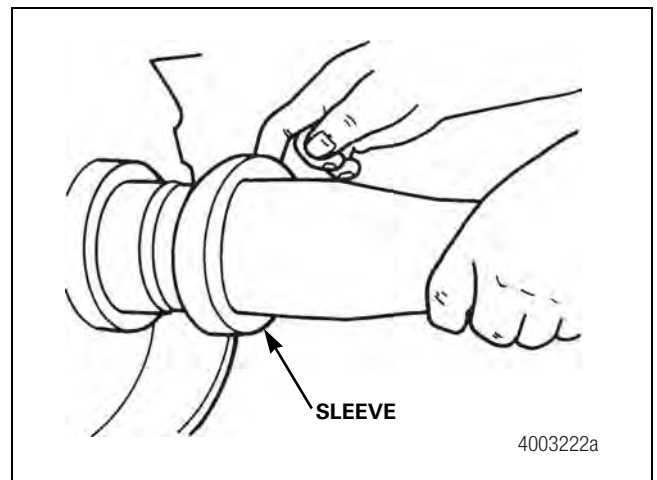
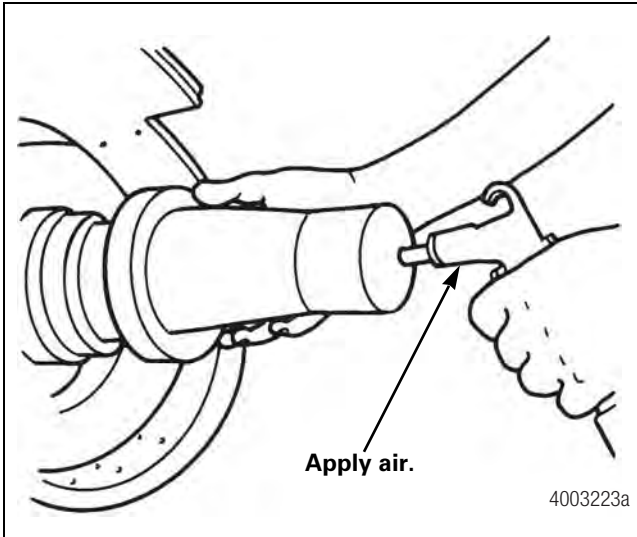

Figure 6.30
Figure 6.31
1. To remove the sleeve, pull on it and break the sleeve vacuum by either deflecting it slightly at the oil seal collar, Figure 6.30, or applying clean dry air into the slit on the end of the sleeve. Figure 6.31.